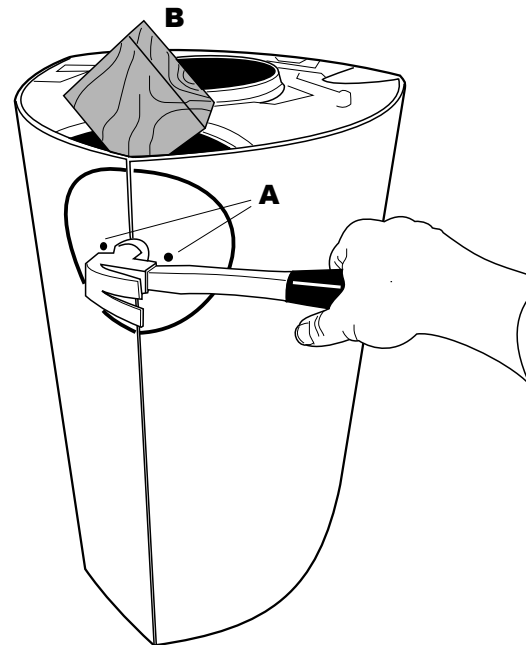

Figure 10. Removing the rear exit outlet knock-outs.
- Drill a hole at each of the two dimple locations in the cut-out panels at the back of the stove (fig. 10, A).
- Tap the wooden block into place between the inner top and outer side plates as shown in fig. 10, B. The block will support the side plates against the impact of the hammer as the outlet cut-outs are knocked out.